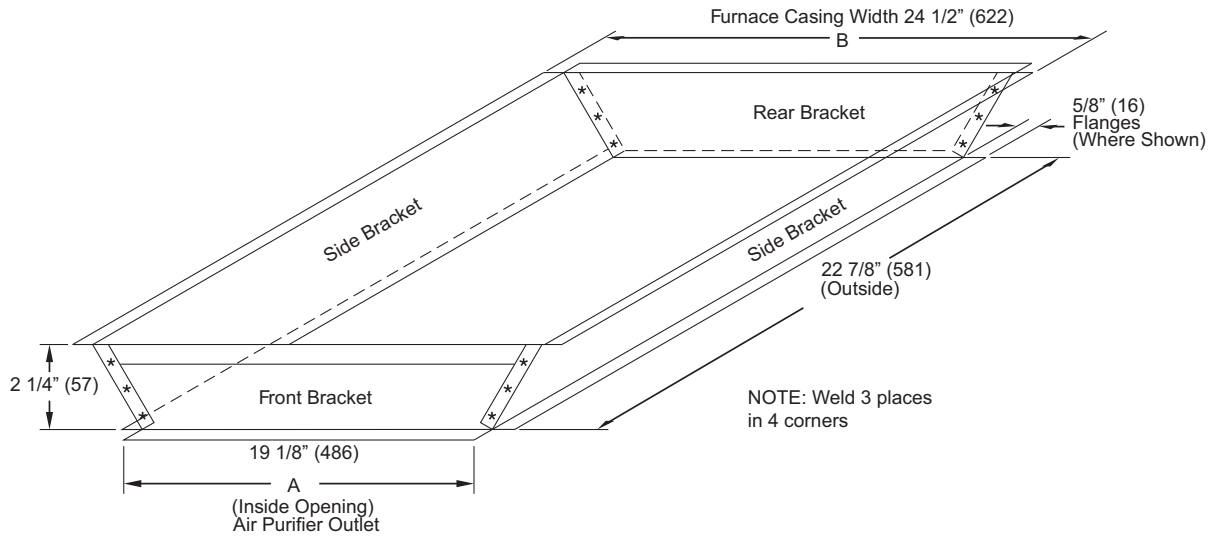

Fig. 10 – Transition
1. Prepare transition, following recommended transition drawing (Fig. 10). Fabricate a 2¼ inch (57 mm) tall (minimum) transition.